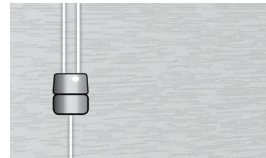

Figure 16: Breakaway Tassel
2. Check that the breakaway tassel is closed and all cords are engaged in the tassel **[Figure 16]**.